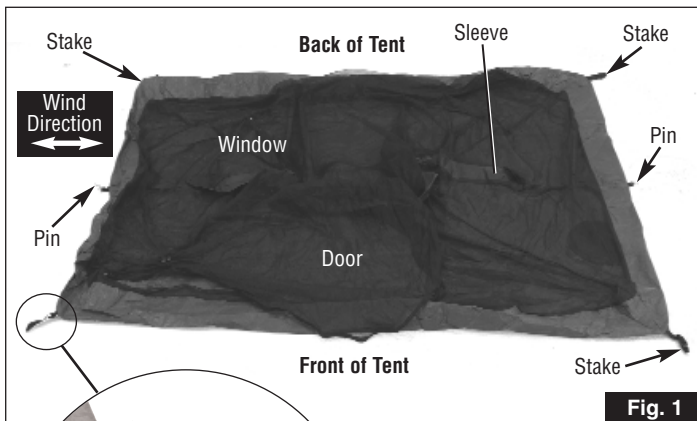

Fig. 1
2. Stretch out corners and sides of tent. Secure four corners with stakes driven in at an angle through the loops, at the end of the web straps, to better anchor the tent (Fig. 1 & 2). **Note:** Staking the corners will make it easier to raise and tear-down the tent.
4. Insert main pole through sleeve in top of tent. (Fig. 1)